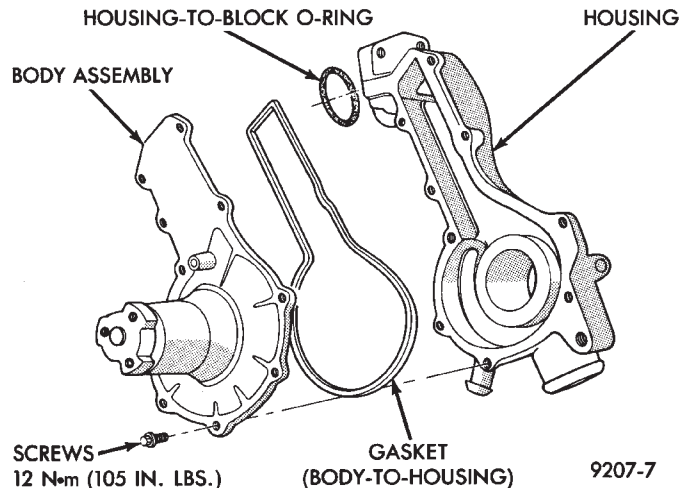

Fig. 2 Water Pump Components—2.5L Engines
(1) Remove three screws holding pulley to water pump.
(2) Remove nine screws holding water pump body to housing. Remove the pump body from housing. (Fig. 2)
(3) Clean gasket surfaces on water pump housing and engine block.
(4) Remove and discard O-ring gaskets and clean O-ring grooves.
(1) Install new O-ring gasket in body O-ring groove.
(2) Assemble pump body to housing and tighten nine screws to 12 N·m (105 in. lbs.) (Fig. 2).
(3) Rotate pump by hand to check for freedom of movement.
(4) Position water pump pulley to water pump. Install three screws and tighten to 30 N·m (250 in. lbs.).
(5) Position new O-ring in housing to block O-ring groove.